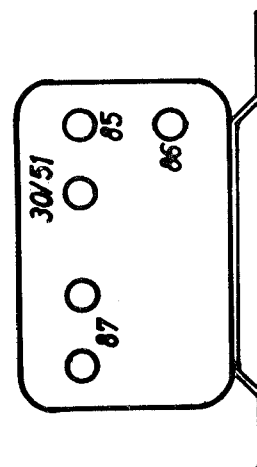

Fig. 13
17. Following the wiring diagram, connect cable terminals to the fuel pump, relay switches, and heater. The upper relay switch is designated No. 2, the lower switch is No. 1. Both relay switches are identical. See Fig. 13 for relay switch terminals. Wiring diagram applicable to the heater is shown on page S TRA 17.